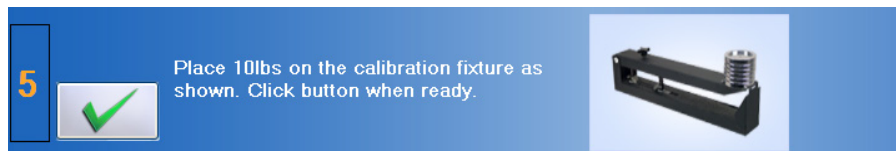

Figure 5-12. Hand Grip - Verify the Weight
Step 8. Click on  to verify the weight (Figure 5-12).